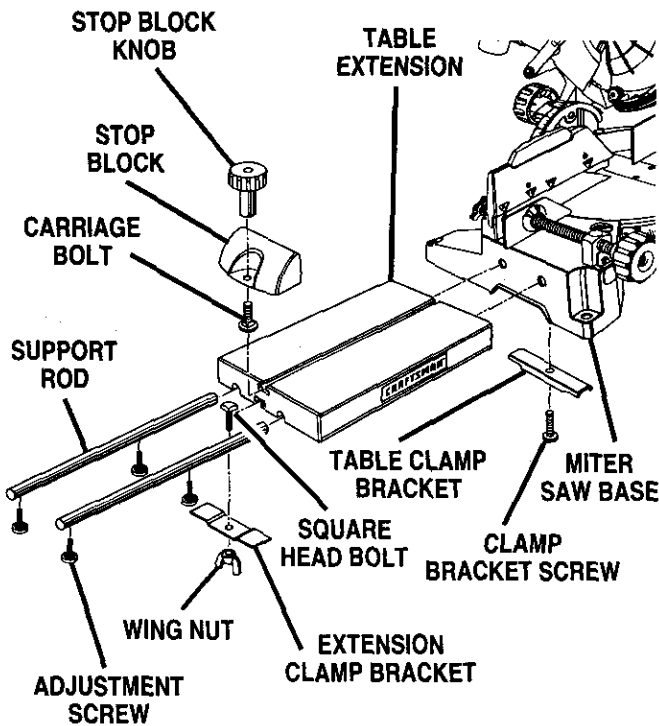

Fig. 41
See Figures 41, 42, and 43.
- Thread adjustment screws into support rods as shown in figure 41.
See Figures 41 and 43.
- Thread the stop block knob onto the carriage bolt to secure the stop block to the table extension. See Figure 41.